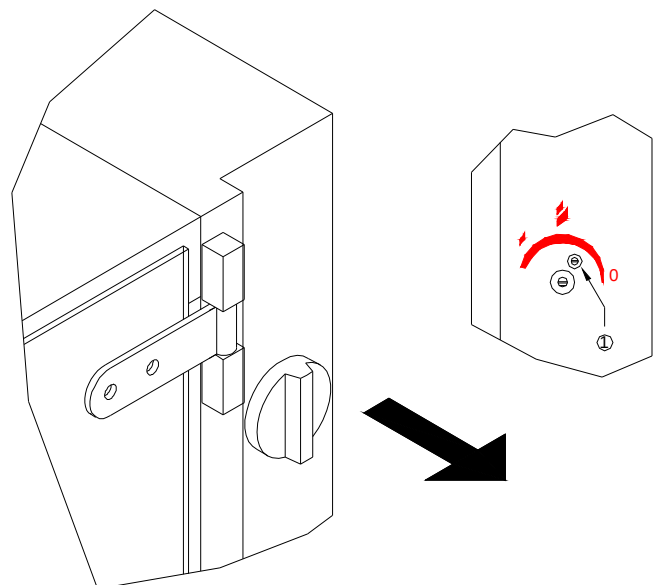

Fig.8
b) Put a screwdriver through the hole in the control panel and loosen the screw (1) Fig. 8 in a clockwise direction to reduce the minimum or anticlockwise to increase the minimum.